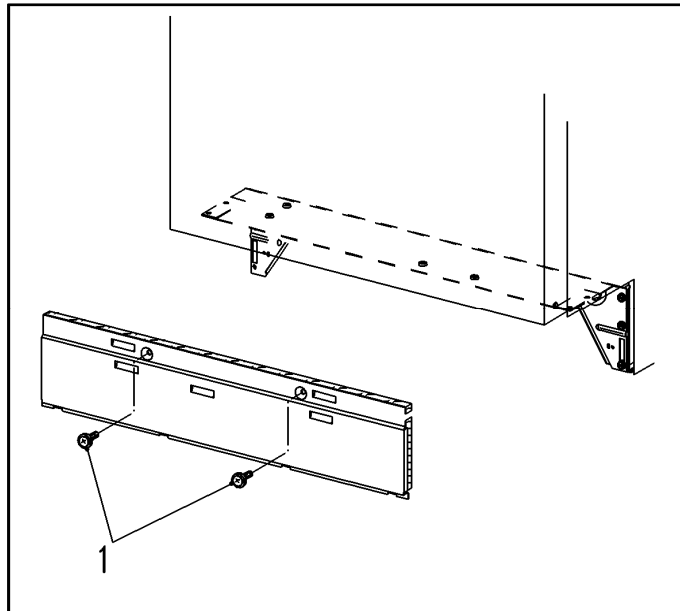

Figure 5-5: Cover Plate
2. Remove the Raised Head Screws, (Figure5-5 – Item 1).